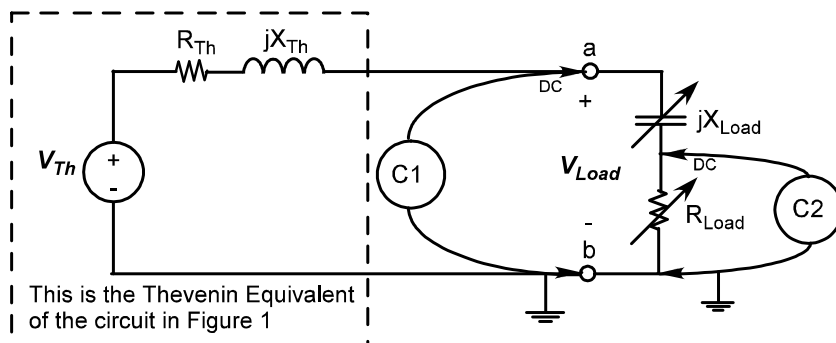

Figure 2—Circuit Diagram for *Load Power Measurement*
- 1.4 At 5 kHz the Thévenin Impedance should be a resistor (R_{Th}) in series with an inductive reactance (jX_{Th}), R_{Th} should be slightly over 60Ω and $X_{Th} \approx 2R_{Th}$. The power dissipated in the load is $P_{Load} = |I|^2 R_{Load}$ and will vary with both R_{Load} and jX_{Load} . Apply a software package of your choice (e.g. MATLAB, MAPLE, EXCEL, etc.) to model a Thévenin equivalent (like Figure 2 dotted line) with a variable load, comprised of a resistor (R_{Load}) and a capacitive reactance ($-jX_{Load}$). Plot a graph with P_{Load} as the y-axis and R_{Load} as the x-axis, as R_{Load} goes from zero to $10R_{Th}$ and X_{Load} equal to $-X_{Th}$. An example of this type of graph is shown below for four values of X_{Load} ; P_{max} occurs when $Z_{Load} = Z_{Th}^*$.
Predict the load reactance (X_{Load}) needed to cancel the Thévenin reactance (X_{Th}). Use a standard capacitor value to get close. Then add in parallel a variable capacitor to tune the capacitance to the exact amount needed to cancel the reactance and keep it constant. Next, attach a variable resistor in series with the capacitive load as shown in Figure 2. Trigger the Oscilloscope off the Load Voltage (V_{Load}) and measure the load current phasor as the load resistance is varied from $0.1R_{Th}$, $0.3R_{Th}$, $0.6R_{Th}$, R_{Th} , $2R_{Th}$, $3R_{Th}$, and $10R_{Th}$.